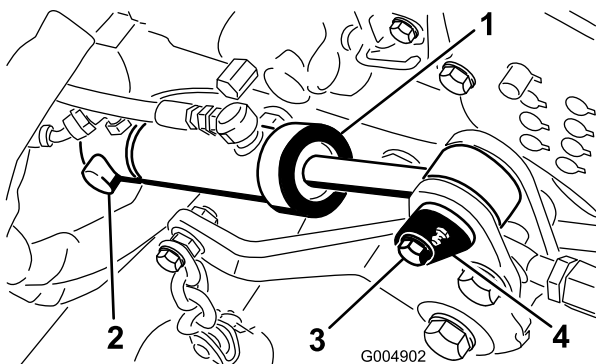
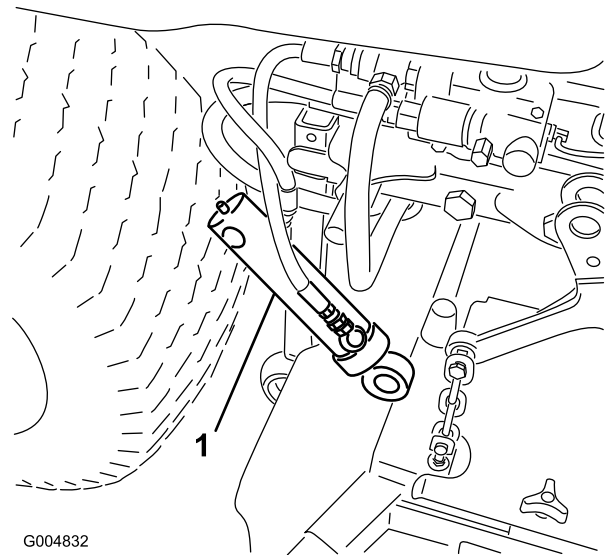

Figure 100
Figure 101
9. Remove the retaining ring securing the rear of the deck lift cylinder to the pivot pin (Figure 100).
10. Remove the screw securing the front cylinder pivot pin to the mower frame (Figure 100). Remove the cable tie securing the pressure and tank hoses.
11. Remove the front pivot pin and slide the cylinder off the rear pin (Figure 100). Let the cylinder hang out of the way on the hoses (Figure 101).